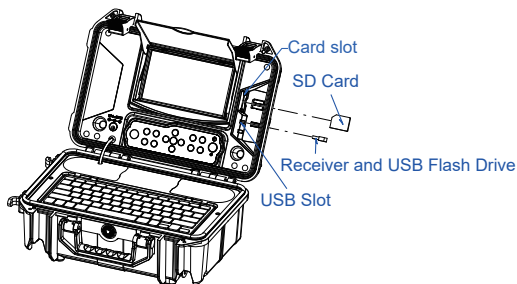

Figure 13. Install SD Card/ USB Flash Drive
5. Install SD card/ USB Flash Drive (Figure 13.)